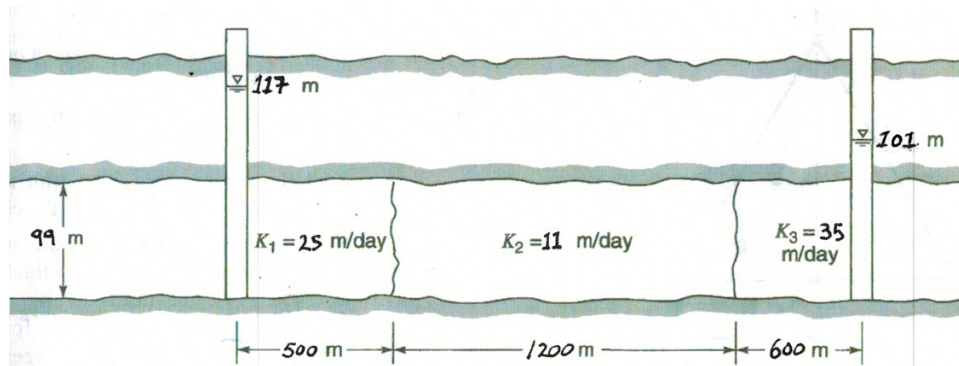

Figure 2: Confined aquifer system with three formations in series
2. Water flows through the aquifer system shown in Figure 2. The heads in the two monitoring wells are 117.0 m and 101.0 m.